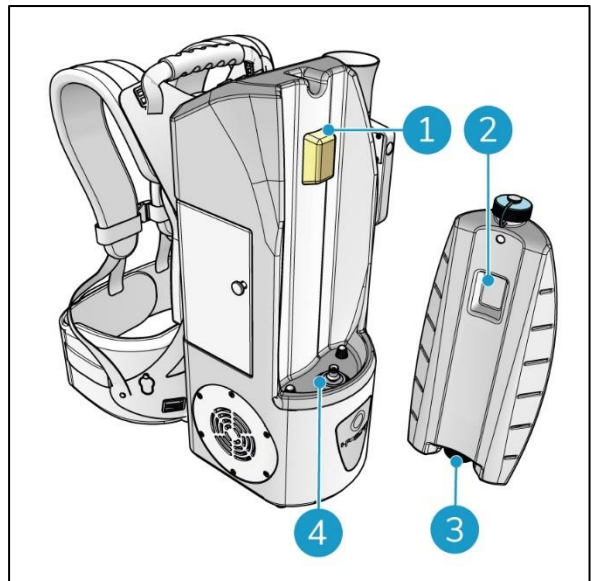

Figure 19
5. Wipe the valve stem (Figure 19, pos 3) and the valve stem plate (Figure 19, pos 4).
6. Wipe the magnet (Figure 19, pos 1) and the magnetic fixing plate (Figure 19, pos 2).